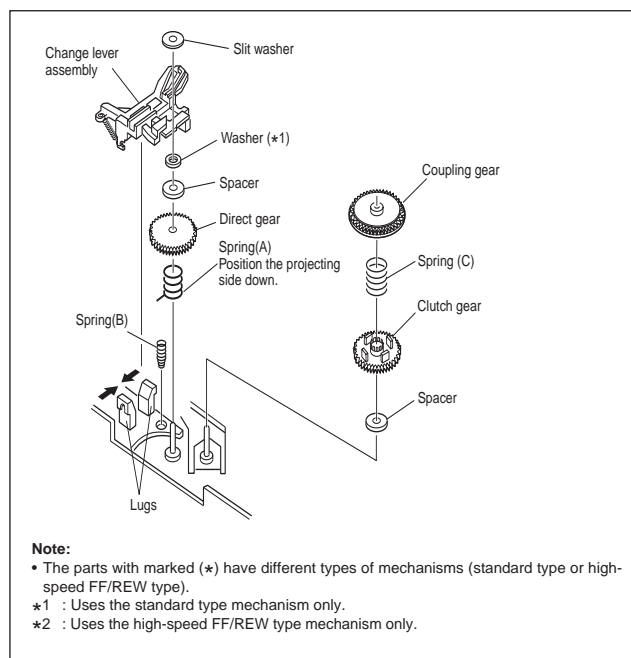

Fig. 2-2-12a
- (1) Release the two lugs of the rotary encoder guide in the arrow-indicated direction and remove the change lever assembly.
- (2) Remove the slit washer retaining the direct gear and remove the latter. Take care so as not to lose the washer and spring. (See Fig.2-2-12a.)
- (1) Install the clutch gear, spring (A), spring (C), direct gear, spacer and others to the individual shafts of the main deck, and finally the slit washer. (See Fig.2-2-12a.)